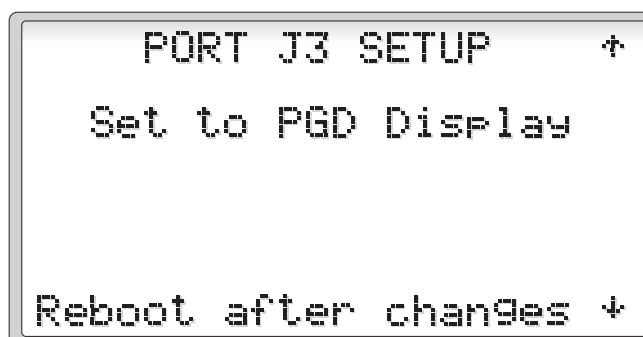
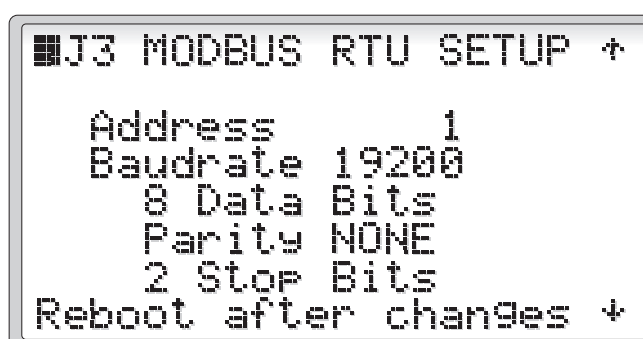

Figure 35
Figure 36
2.3.3.4 BMS Setup (Figures 35 through 39)
When the J3 port is set for Modbus RTU, pressing the **DOWN** key will display Figure 35. This screen will allow the address, baud rate and data parameters to be set. If J3 is set for BACnet MS/TP, pressing the **DOWN** key will display Figure 36. This screen will allow the BACnet data to be used.